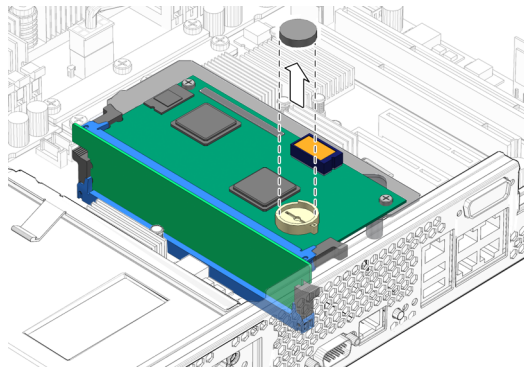

FIGURE 4-14 Prying the Battery From the System Controller Board
2. Pry the battery out of the system controller board using a small flat-blade screwdriver (FIGURE 4-14).